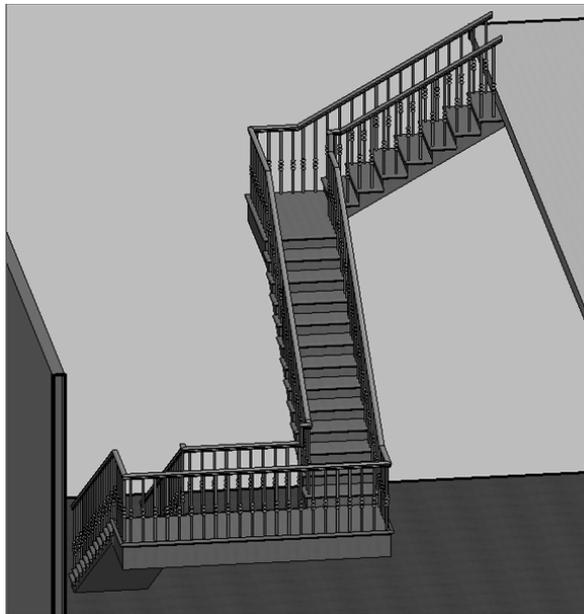

FIGURE 10.66: The stairs as shown in 3D. Notice the nice bullnose and the railings.
9. Go to a 3D view to check out the stairs. They should resemble Figure 10.66.